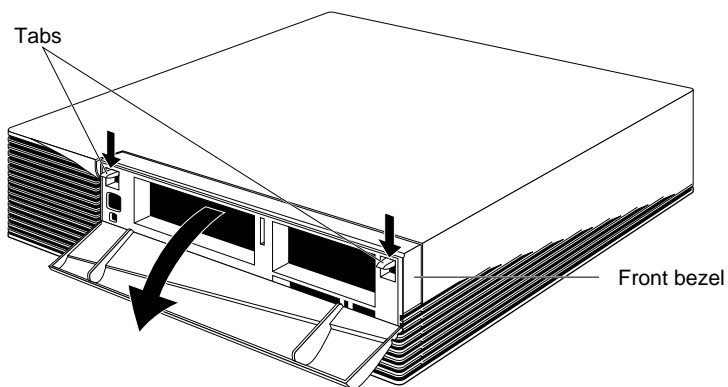

Figure 2-4 Removing the front bezel from the Indigo² chassis
- Press down on the tabs on each side of the bezel, as shown in Figure 2-4.